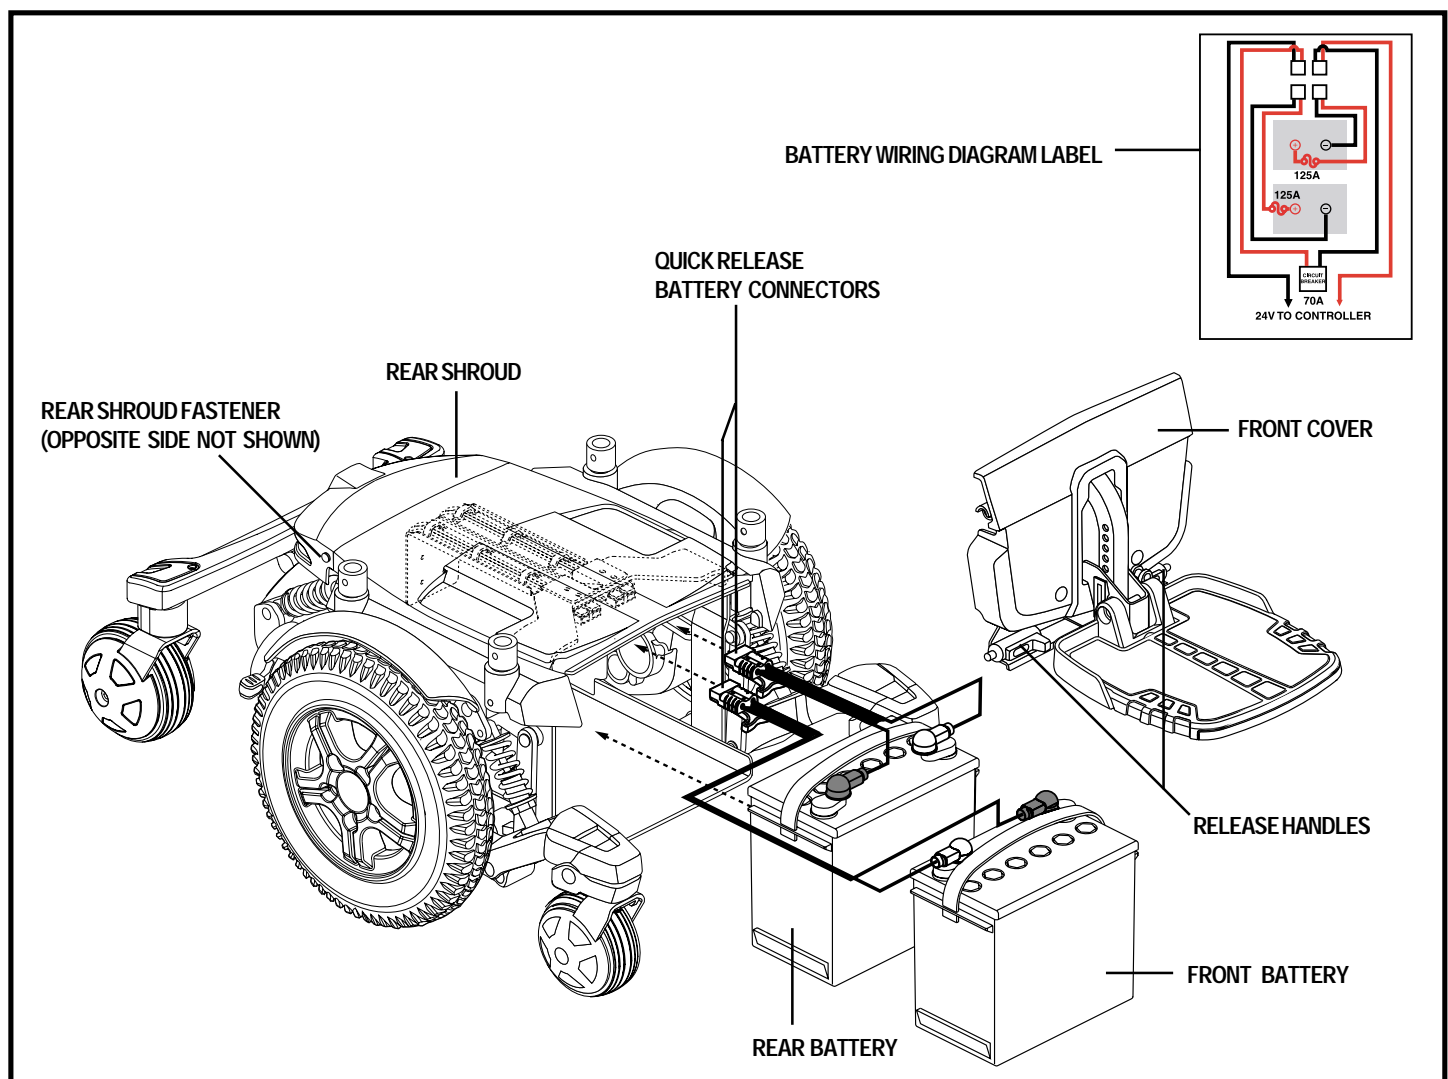

Figure 29. Battery Installation
3. Remove the foot platform by squeezing the release handles (see figure 29) and lifting the foot platform bracket up and away from the power base.
4. Disconnect the quick release battery connectors. See figure 29.
7. Connect a battery harness to the new front battery according to the battery wiring diagram. See figure 29.